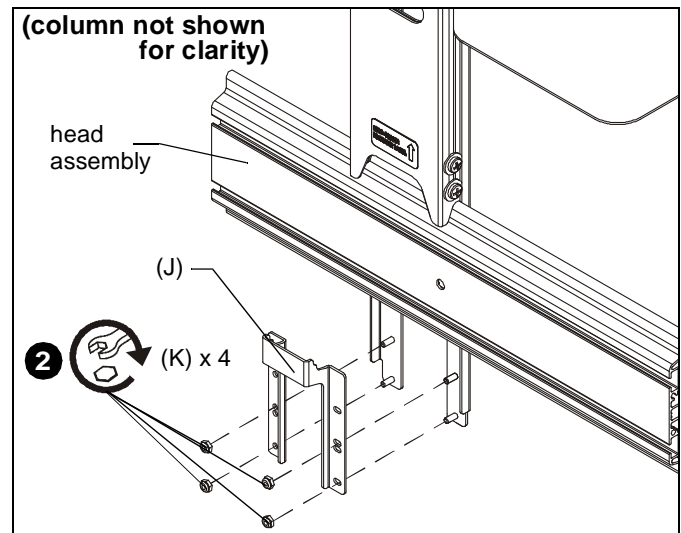

Figure 4
2. Attach retaining bracket (J) to upright, pressing retaining bracket against head assembly and tightening, using four 10-24 lock nuts (K). (See Figure 4)